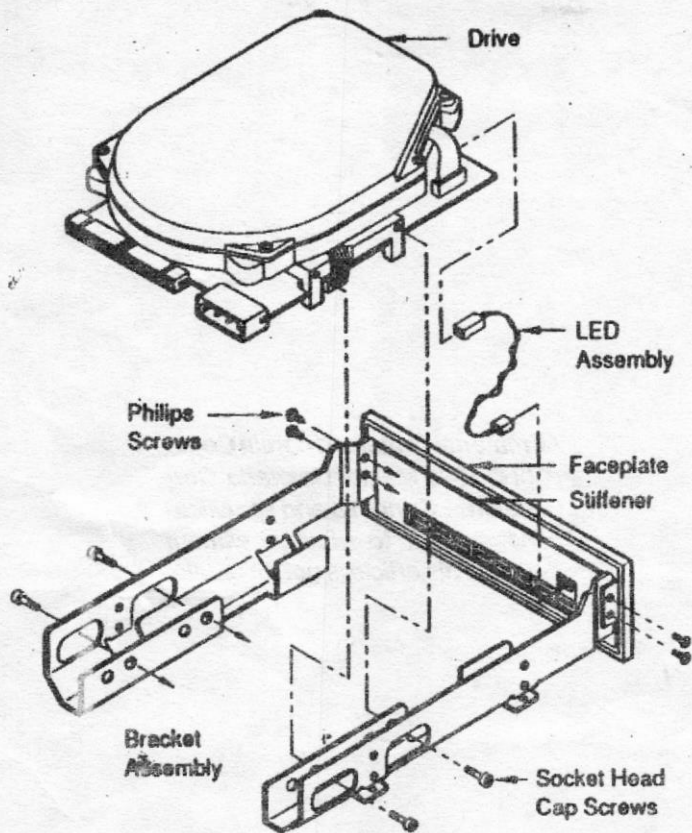

Figure 1
2. Assemble both brackets to faceplate or stiffener as shown in Figure 1, using the four Phillips head screws. The faceplate should be perpendicular to the work surface. Tighten each to 7 in-lb.
3. Place the drive into the bracket as shown in Figure 1. Position the drive such that the tapped holes in